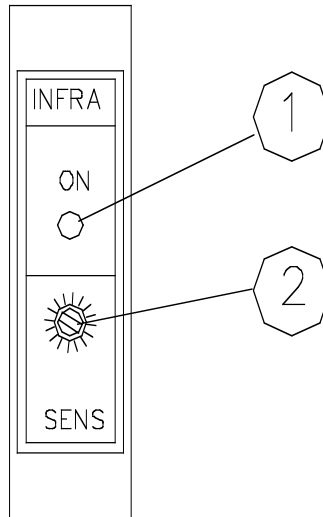

FIG. 9
- c) With the tape in this position, turn the photocell potentiometer 2 Fig. 9 anticlockwise with a small screwdriver until the yellow LED 1 comes on.